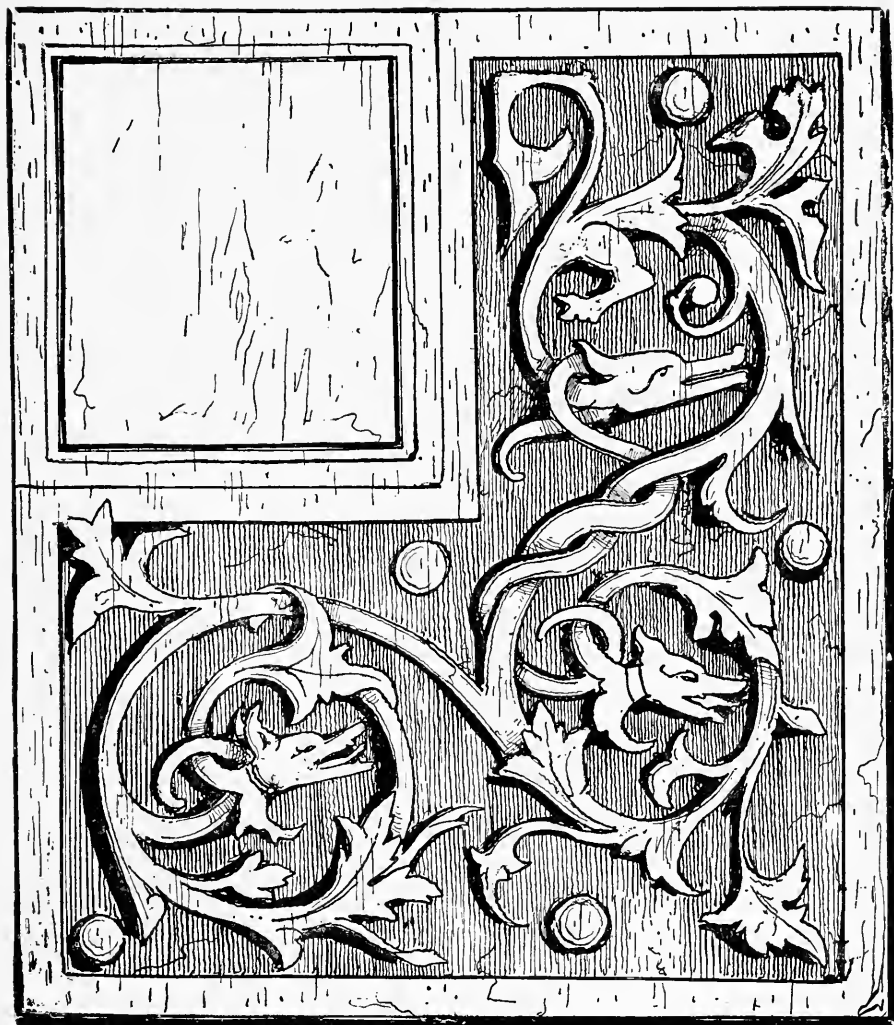

Fig. 79. FRAME FOR A PHOTOGRAPH, LOOKING GLASS, ETC.
*Photograph or Mirror Frames, or Mounts.* Take a piece of thin board, six inches by four or five, or any size required. Cut out of one corner of this as much as will be required for the photograph or mirror, leaving enough wood for a pattern. These have become very popular of late, Fig. 79.